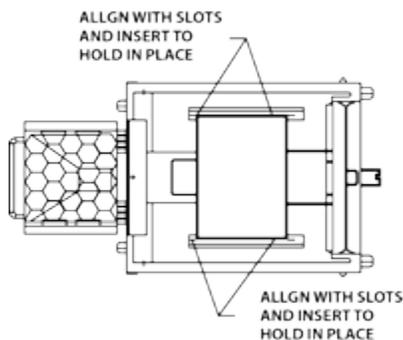
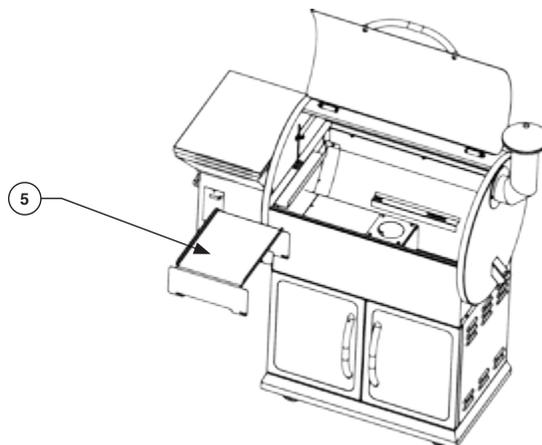

FIG 11
FIG 12
Position the Heat Baffle (5) on the locating brackets, which is on the inside walls of the grill. The notched legs should be facing downward. Move to the right to lock. As shown in FIG 11, FIG 12.